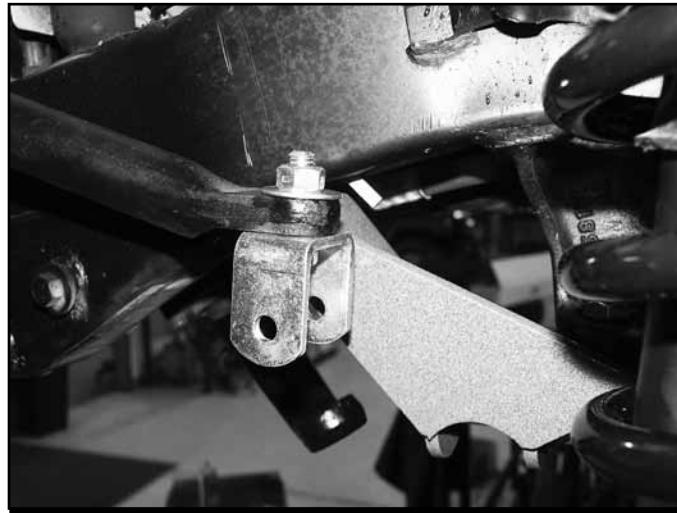

Fig. 34
82. Install the provided upper u-bracket (01325) to the sway bar using the original link mounting hole with a 7/16" x 1-1/2" bolt, nut, 7/16" SAE and 7/16" USS washers (BP 718). Install the bolt up through the u-bracket with an SAE washer into the sway bar. Fasten with the nut and USS washer. Position the bracket so that the thru-holes are parallel with the stud on the axle (Fig 34). Torque to 50 ft-lbs.